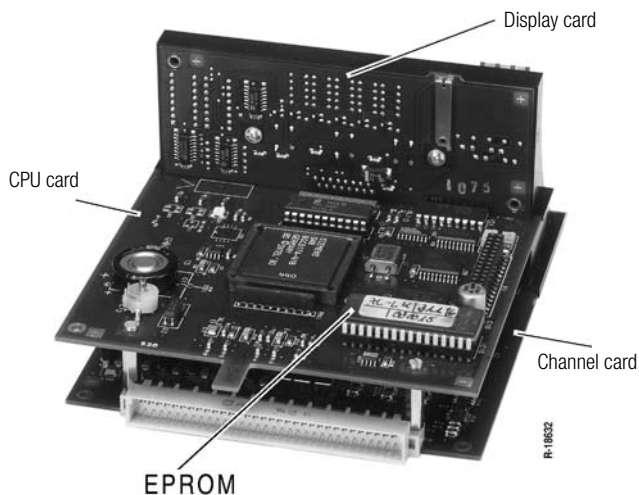

Figure 14 Electronic unit removed (view from behind)
4. Remove the electronic unit from the case (see Figure 14).